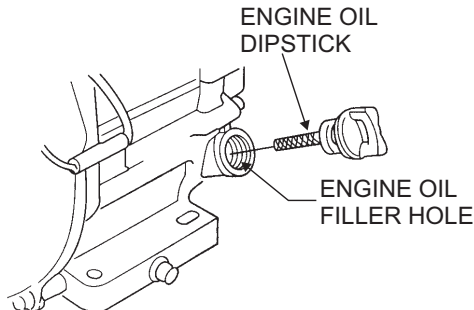

Figure 3. Engine Oil Dipstick
2. Remove the filler cap/dipstick from the engine oil filler hole (Figure 3) and wipe it clean.